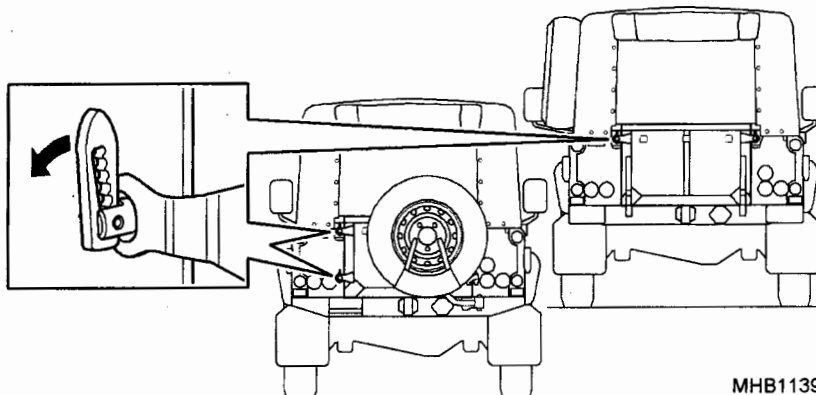

Fig 3 Tailgate locking mechanism
6 The tailgate is either side or bottom hinged. The tailgate is secured by two latches in both cases. Restraining straps prevent excess travel for bottom hinged tailgates and a retaining door holder limits the travel for side hinged conversions. (Refer to Fig 3)
6.1 Move the catches in an upward direction until they are able to fall into the horizontal position (Fig 3).